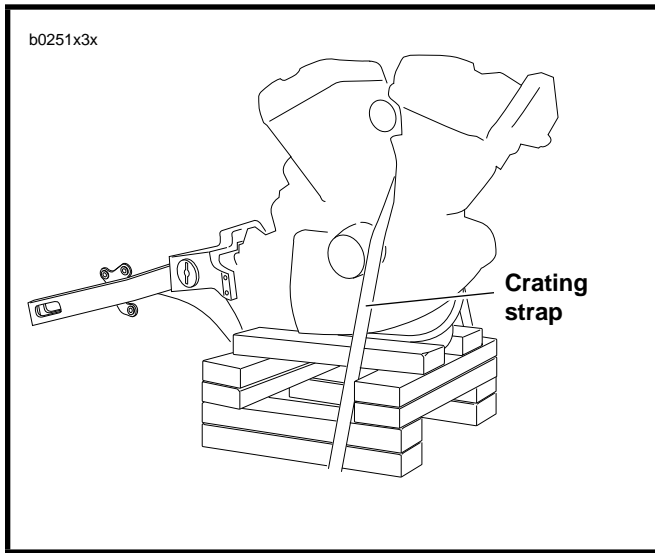

Figure 3-2. Supporting the Engine
15. See Figure 3-2. Place a wooden cradle underneath the crankcase.
1. See Figure 3-2. Place engine crankcase on supports so frame may be installed over the top of the engine.